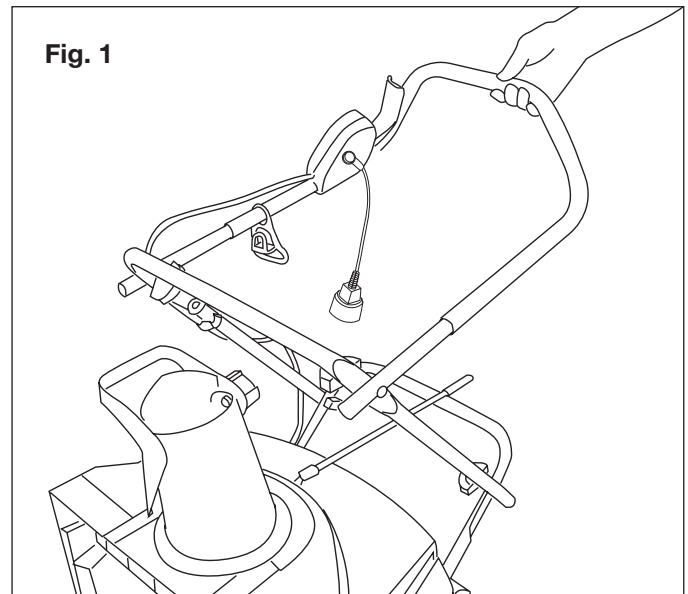

Fig. 1
1. For easy assembly, the unit comes complete with most parts already connected. To complete the handle assembly, simply pull the middle frame back and pull the upper frame up (Fig. 1).